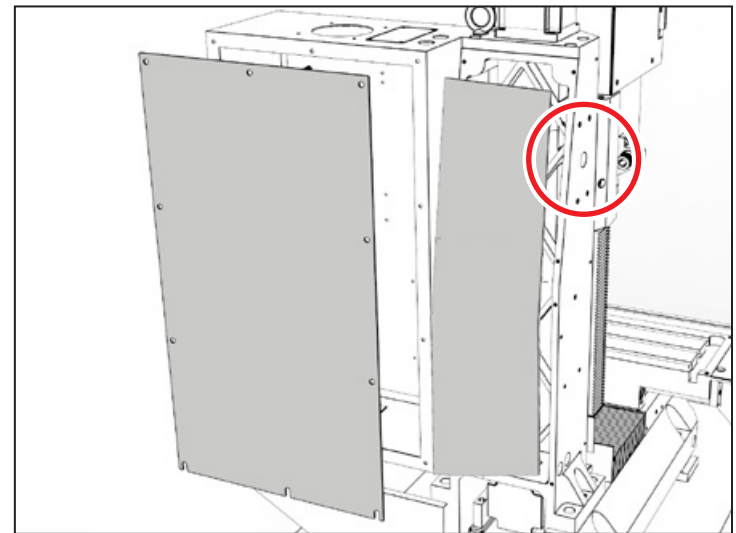

Figure 4
1. From the back of the mill, on the electrical cabinet, use a 3 mm hex wrench to remove 10 socket head cap screws (see **Figure 4**).
2. On the Z-column, use a 3 mm hex wrench to remove eight button head cap screws (see **Figure 4**).
3. Use a 4 mm hex wrench to remove four set screws from the side of the Z-column (see **Figure 4**).